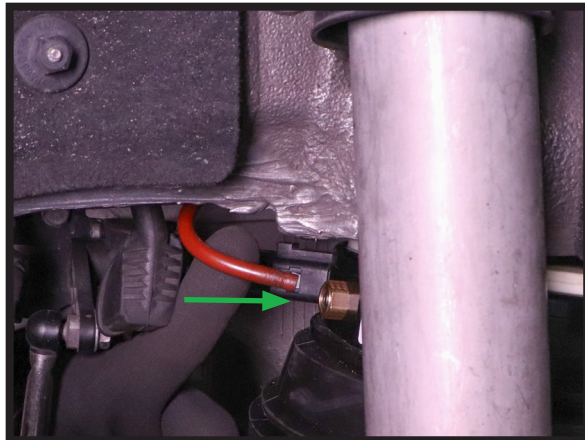

FIGURE 15
5. INSTALL THE AIR LINE BY PUSHING THE LINE INTO THE FITTING UNTIL IT IS FIRMLY SEATED. (FIGURES 15, 16)